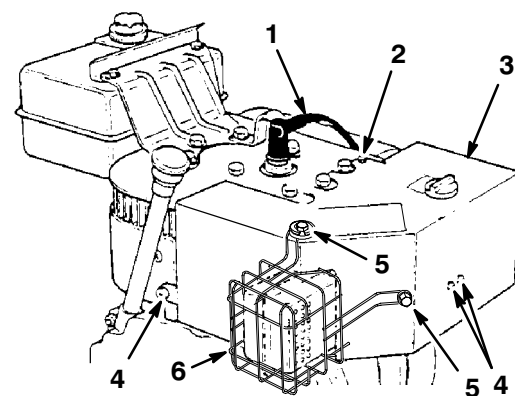

Figure 16
If you operate the engine when the air temperature is above 40°F (4°C), remove the carburetor heater box (Fig. 16).
1. Disconnect the wire from the spark plug and make sure that the wire does not contact the plug (Fig. 16).
4. Remove two Phillips screws, two hex head screws, and one lock washer that secure the carburetor heater box in place (Fig. 16).